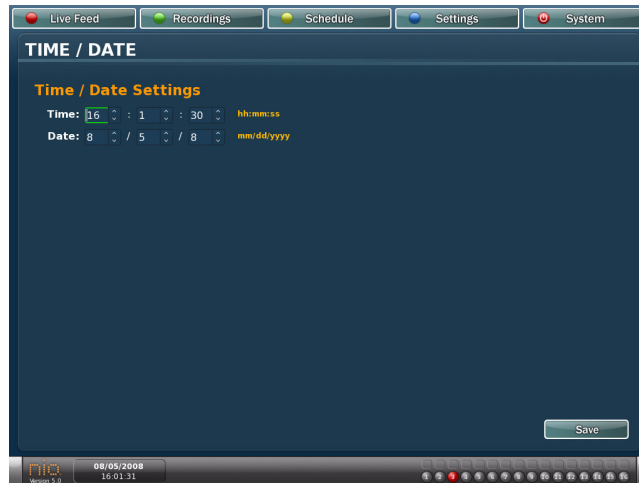

Figure 8. Time and Date Sub-Menu
The first time you bootup your DVR, it will ask you to set the time and date. For proper operation of the DVR, it is important to set the time and date correctly (Figure 8). An incorrect time and date will make it difficult to interpret recorded files and to determine the time events were recorded.
2. Navigate to the Time textbox. Enter the time of day using a 24-hour format. In the case of Figure 8, 13:06:06 represents 1:06:06 pm.